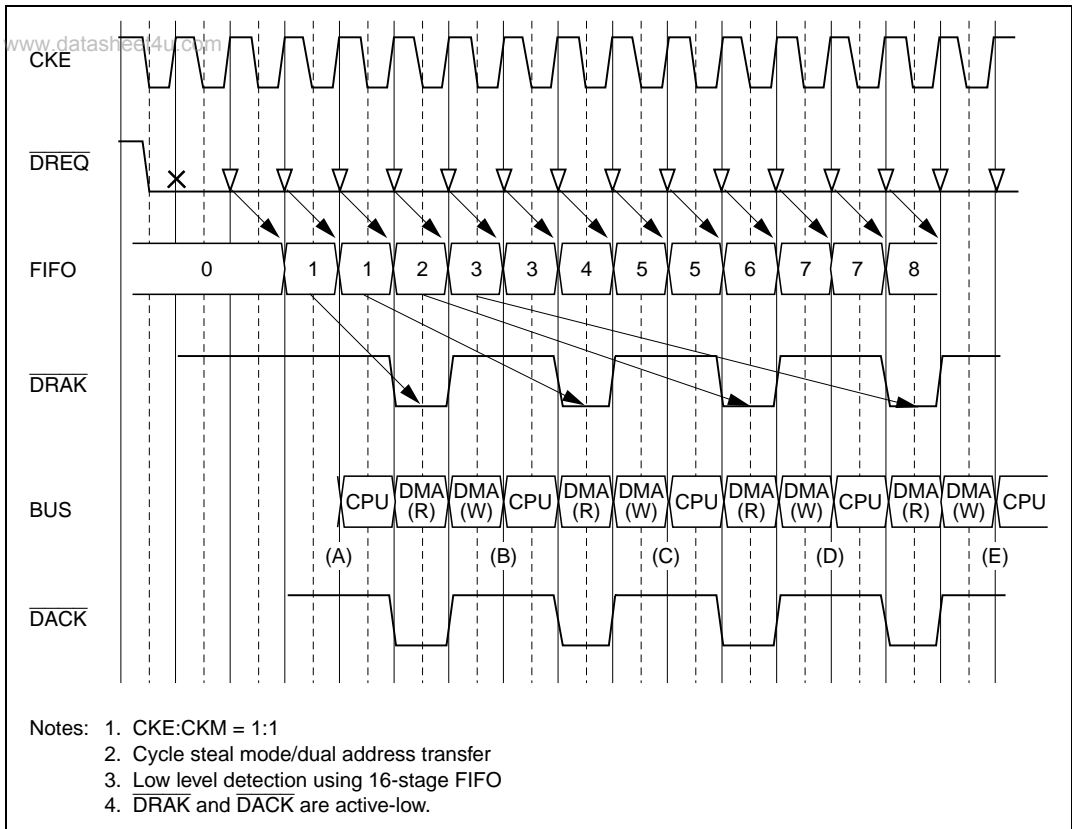
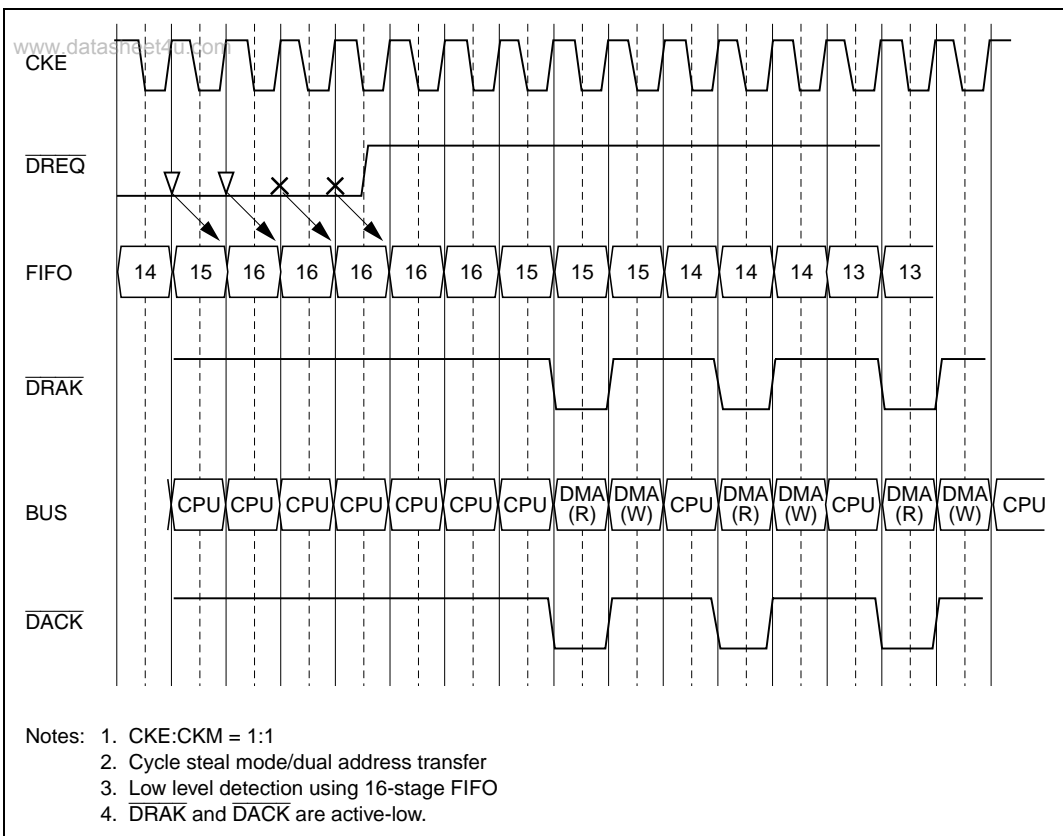

Figure 9.14 Operation Example:
Figure 9.15 Operation Example:
When $\overline{\text{DREQ}}$ low level detection is selected, $\overline{\text{DREQ}}$ is sampled in every cycle at the rise of CKE (figure 9.14). The noise canceler function prevents sampling of $\overline{\text{DREQ}}$ input at the first rise of CKE. The sampled $\overline{\text{DREQ}}$ signal is stored in the 16-stage FIFO. One DMA transfer is performed for one stored sampling result, and a number of transfers corresponding to the number of stored samples are always carried out. If $\overline{\text{DREQ}}$ is input continuously, samples are taken until the FIFO is full; once the FIFO is full, the $\overline{\text{DREQ}}$ input is no longer sampled (figure 9.15). The FIFO is incremented each time $\overline{\text{DREQ}}$ is sampled, and is decremented when generation of the next DMA transfer cycle is confirmed. It is not always possible to stipulate the FIFO decrement timing relative to the external bus cycle, but in the case of a CKE:CKM frequency division ratio of 1:1, it will be at the start of the bus cycle before the DMA transfer cycle (timings (A), (B), (C), (D), and (E) in figure 9.14). With the 16-stage FIFO, in the event of contention between FIFO incrementing and decrementing, both are performed simultaneously. The FIFO operation in this case is as shown at (A), (B), (C), (D), and (E) in figure 9.14. The $\overline{\text{DRAK}}$ signal is output one state after the FIFO is decremented, and at the same time as, or earlier than, address output in the corresponding DMA transfer cycle. The $\overline{\text{DRAK}}$ signal is output once for each $\overline{\text{DREQ}}$ sample.